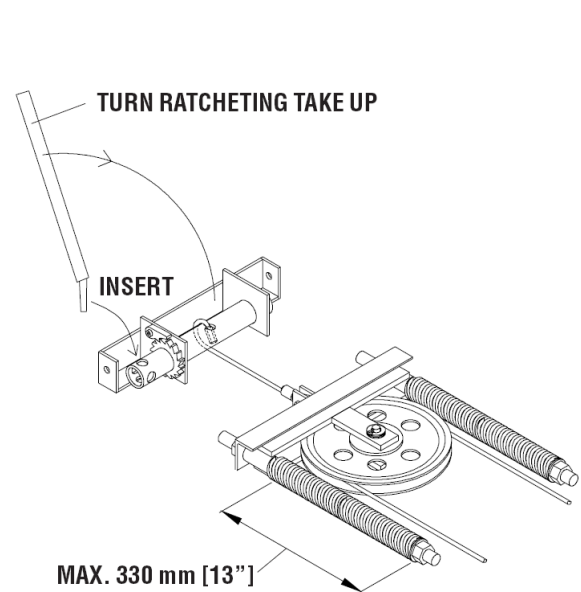

Figure 18
4) Tension the drive cable (Figure 18).